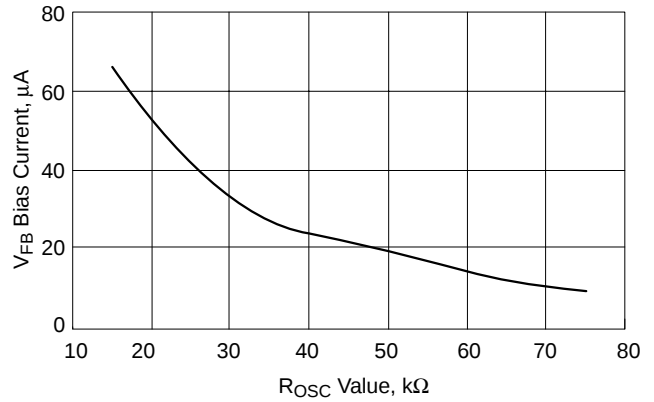

Figure 4. V_{FB} Bias Current vs. R_{osc} Value
2. The V_{FB} Bias Current changes with the value of R_{OSC} per Figure 4.
To set the no-load positioning a resistor (R9) is placed between the output voltage and V_{FB} pin. The V_{FB} bias current will develop a voltage across the resistor to decrease the output voltage. The V_{FB} bias current is dependent on the value of R_{OSC} . See Figure 4 on the datasheet.